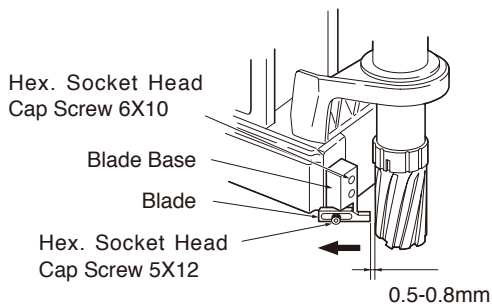

Fig. 31
(1) Mount Blade Base. (Fig.31)